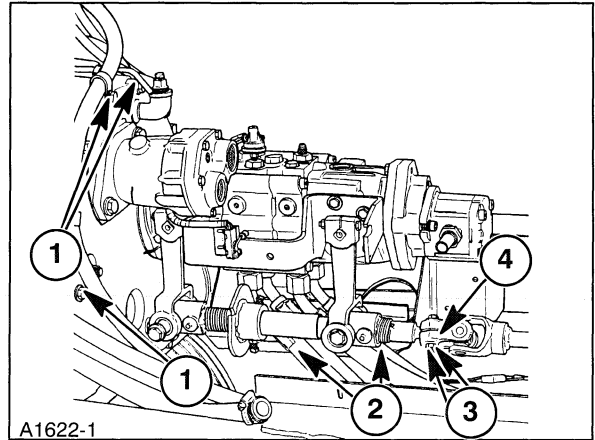

Figure 6-29
**NOTE: Fig. 6-29: has additional parts removed for clarity.**